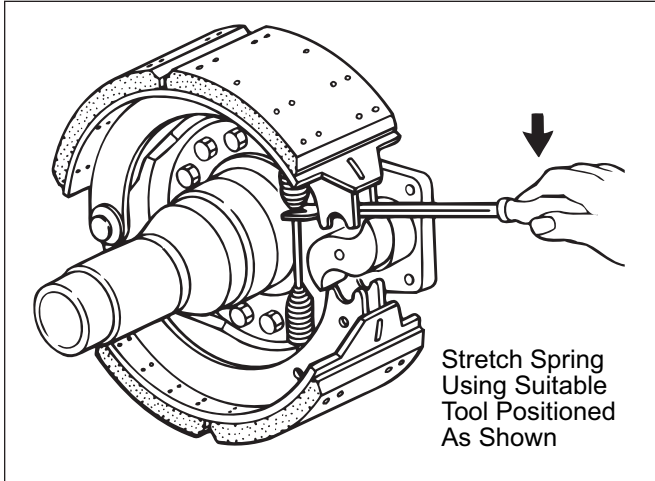

Figure 71. Shoe Return Spring Installation
8. Install shoe return spring. Refer to Figure 71.